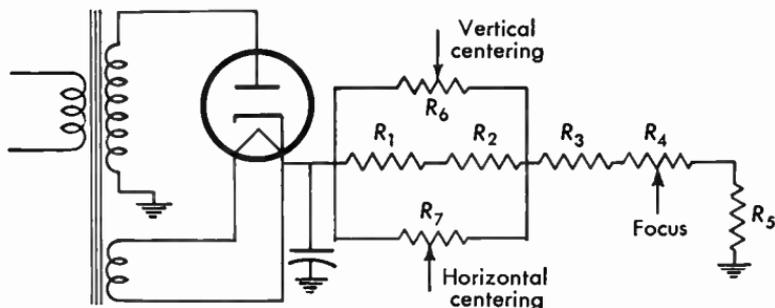

Fig. 11.34 High-voltage rectifier with provisions for focusing and centering.
11.34 A television receiver employs a high-voltage bleeder circuit of the type of Figure 11.34, where $R_1 = R_2 = 500,000$ ohms, $R_3 = 3$ megohms, $R_4 = 1$ megohm, $R_5 = 2$ megohms and $R_6 = R_7 = 1$ megohm. The voltage at the cathode of the rectifier is $+2700$ volts. Find the variable ranges of voltage of the focus control and of the horizontal and vertical centering controls. Also find the potential difference of the focus control voltage and of the centering voltage with respect to ground when the controls are at midposition.